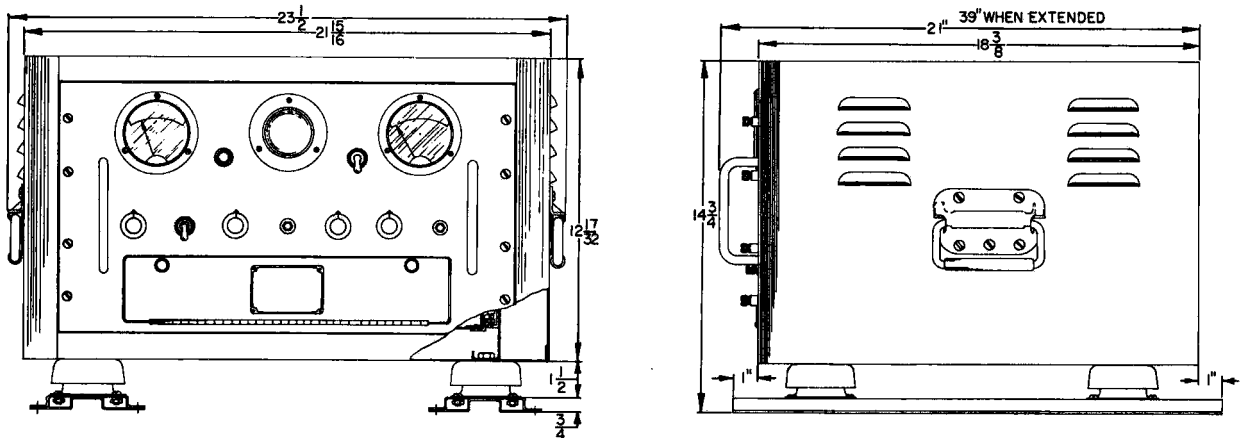

Figure 3—1. Front and Side Views of the Equipment, with Dimensions
a. **SHELF MOUNTING.**—The unit is supplied with shock mounts attached, and can be mounted on a shelf or table-top by following the drilling instructions in figure 3—(2). Adequate space should be provided behind the unit for cables. Normal clearance is about four inches. Hardware for mounting the unit is not furnished. Eight each 1/4" bolts (length determined by table thickness), nuts, and lockwashers are required.